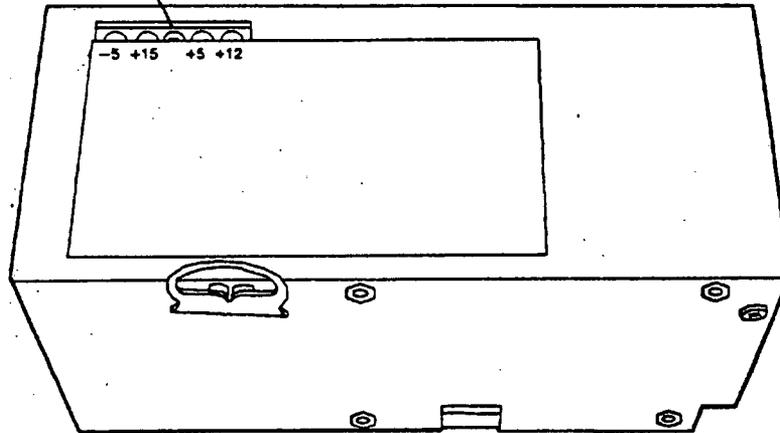

Figure 2-2. Power Supply Adjustment Location
3. Turn the spectrum analyzer **LINE** switch to ON. Adjust the +5.1 V adjustment (earlier units are labeled +5.2 V), for a voltage reading of $+5.1 \text{ V} \pm 0.05 \text{ V}$ (see Figure 2-2).